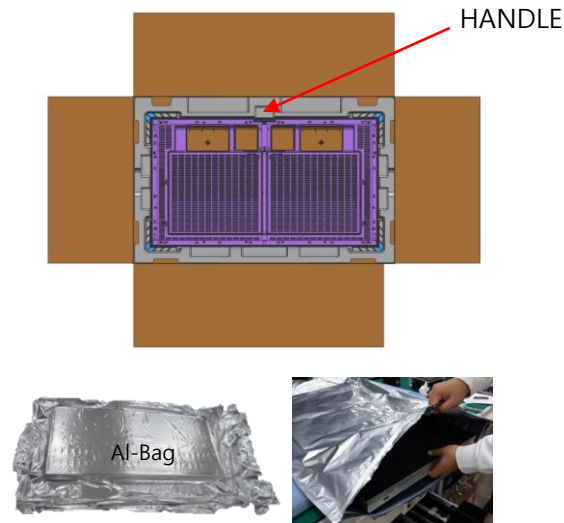

Fig. 2 Remove Al-Bag
- ① Remove the Box tape at the upper area and then open up the box. (Fig.2)
- ② Remove the Top-Cushion and hold the handle inside PE-Bag and pull out the set then remove PE bag.
(Fig.2)